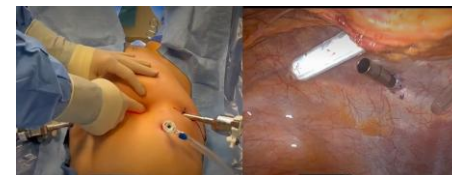

Figure 4 - Inserting the StitchKit® device through incision
- 4.3. Alternatively, StitchKit may be placed through one of the 8 mm trocar sites under direct endoscopic visualization by removing one of the 8mm trocars and pushing StitchKit into the surgical field through that incision then replacing the trocar (Figure 4)– all under direct endoscopic visualization. When inserted this way, the resultant location of StitchKit should be noted, and the surgeon should retrieve StitchKit immediately after docking the robot and sitting at the surgeon console.